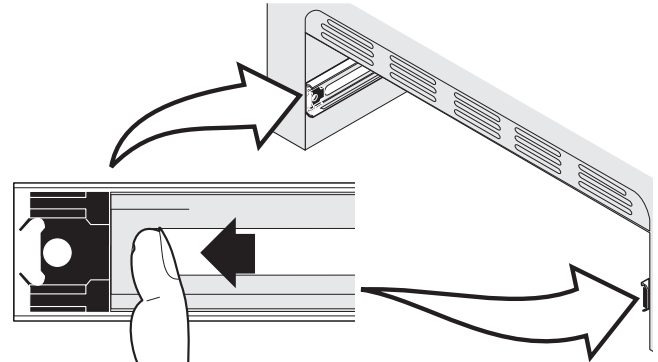

Figure 52: Bearing glide placement
1. Pull the bearing glides to the front of the outer compartment glide channels until they snap into place (See Figure 52).